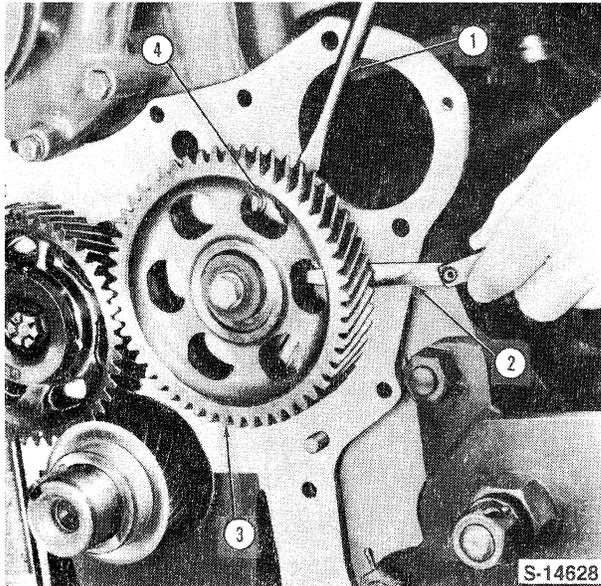

Figure 23
7. Pry the camshaft gear away from the thrust plate and using a dial indicator or feeler gauges, measure the clearance, Figure 23. Install a new camshaft thrust plate if the camshaft end play exceeds the specified limits. See "Specifications"—Chapter 3.